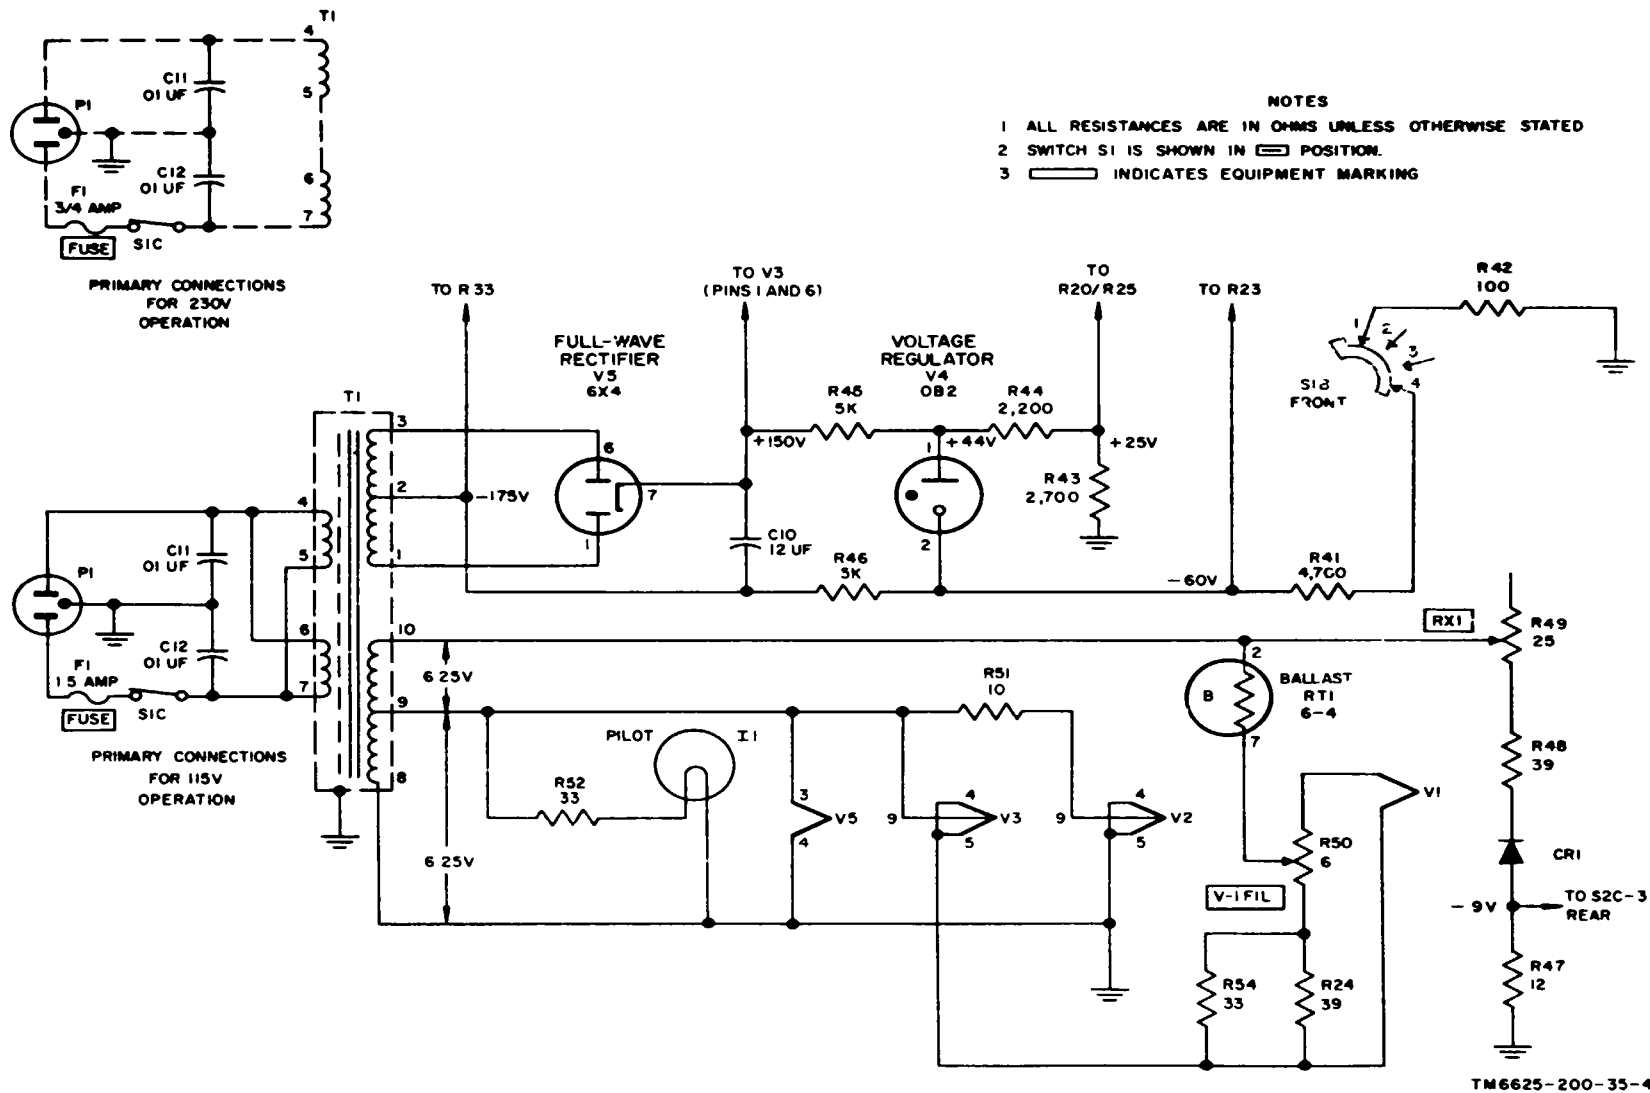

Figure 5-7. Power supply, partial schematic diagram.
*a. Impact Power.* The ac voltage (115 or 230 volts) is fed from the power source, through power connector PI (fig. 5-7), FUSE F1, and switch SIC (part of FUNCTION switch S1 (SELECTOR switch in Multimeter ME-26A/U)) to the primary of transformer T1.
(2) For a 115-volt ac voltage input (fig. 5-7), the two primary windings are connected in parallel. For a 230-volt ac voltage input, the two primary windings are connected in series.
(3) Capacitors C11 and C12 prevent spurious voltage, which may be present in the power source, from affecting the equipment. Capacitor C11 and C12 also prevent noise generated in the multimeter from entering the powerline.